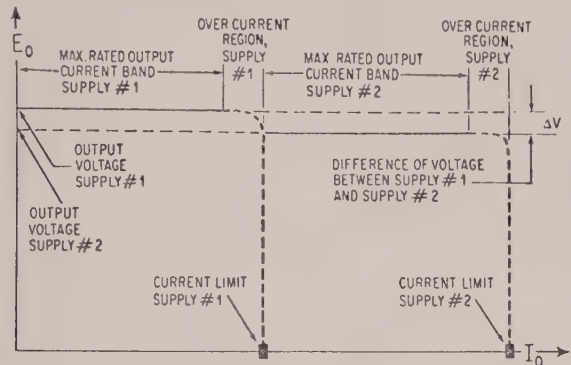

FIG 3-12 PARALLEL OPERATION. PAX POWER SUPPLIES
- 3-40 Two identical PAX power supplies may be operated in parallel for increased load-current output. Each supply is set approximately to the desired output voltage with its respective Current Limiting Adjustment set to allow max. output current flow. After paralleling the two power supplies, one of them (supply #1) will inherently be at a slightly higher output voltage than the other (supply #2). Consequently, supply #1 will deliver all the load current up to the setting of its Current Limiting Adjustment. As the load is increased beyond this limit of supply #1, supply #2 takes over and delivers the additional current. The Current Limiting Adjustment of supply #1 can now be decreased, so that approximately equal current sharing is obtained. Fig. 3-12 shows in form of a diagram, how the two supplies operate in parallel, with their respective Current Limiting Adjustments in maximum clockwise position. It will be obvious from the diagram, that the areas of load regulation are within the output current bands of the individual supplies only. Therefore, load regulation cannot be measured from zero to twice the load current for example, but only within the individual load current bands. Error-sensing as described in Par. 3-19 (from either supply), may be used if precise regulation at the load is required.